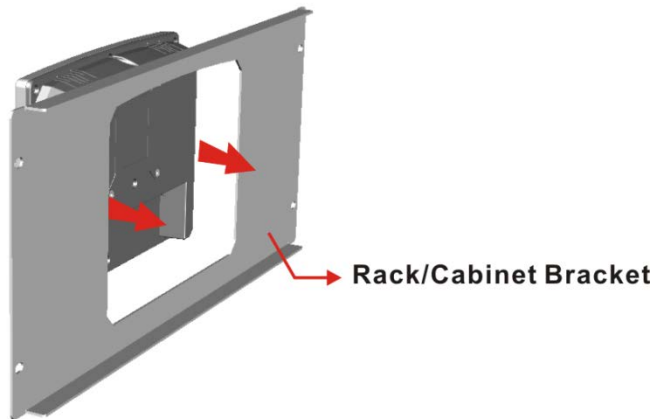

Figure 3-22: The Rack/Cabinet Bracket
- Step 1:** Slide the rear of the PPC-F06B-BT flat panel PC through the rack/cabinet bracket until the aluminum frame is flush against the front of the bracket (Figure 3-22).